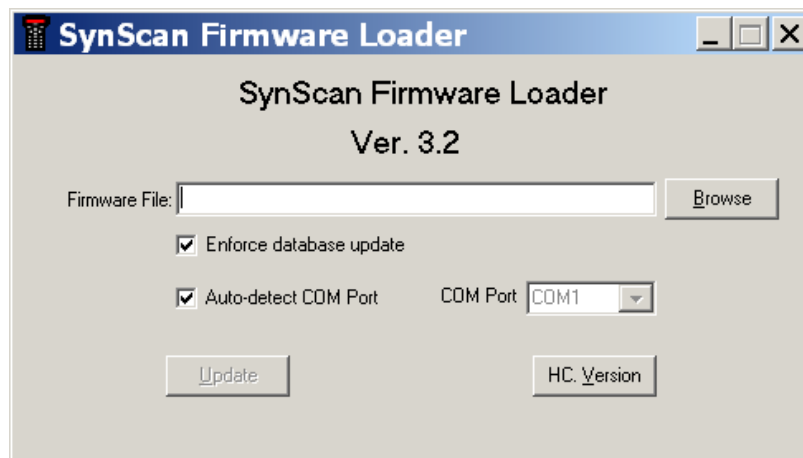

Fig. 10.3a
2. On the computer, run the SynScanFirmwareLoader.exe. An application window is show in Fig 10.3a.